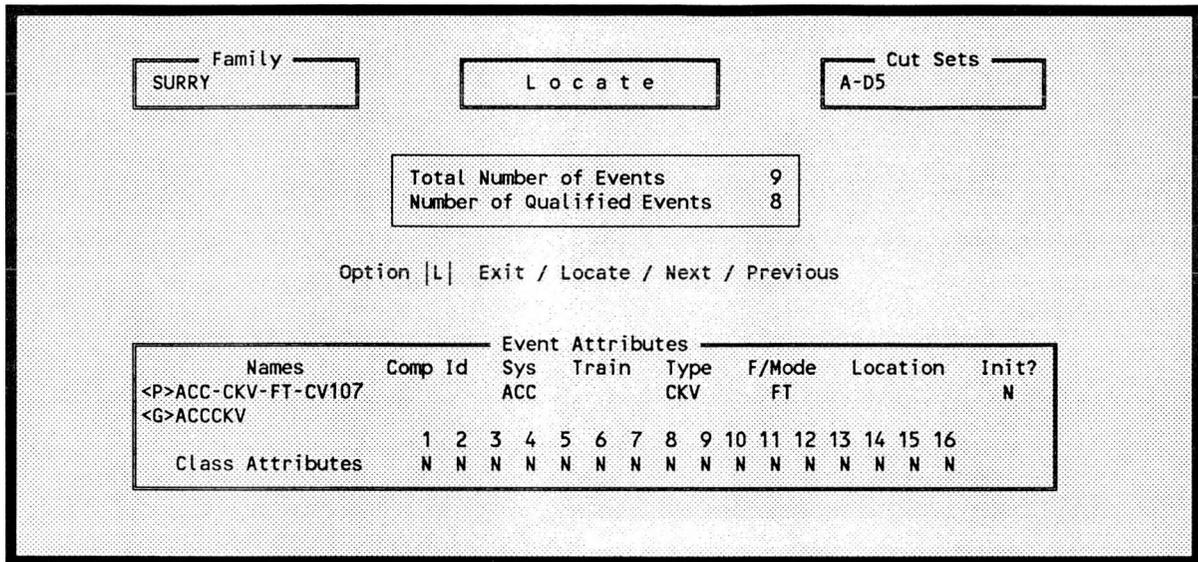

Figure 231. Results of a locate request.
7.5.5.2 Locate. This option searches the list of all existing events and the list of all newly added events for events which meet the desired search criteria. This option allows wild card search characters for the two name fields on the screen. A question mark (?) matches any single character in its specified position, and the asterisk (*) matches a character string of any length. This option will use any of the filled event attribute fields on the screen as search criteria. Any events that meet the selected search criteria are considered to be qualified events. The number of currently qualified events will then be updated on the screen. The first qualified event will be displayed on the screen (Figure 231).